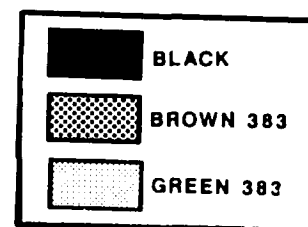
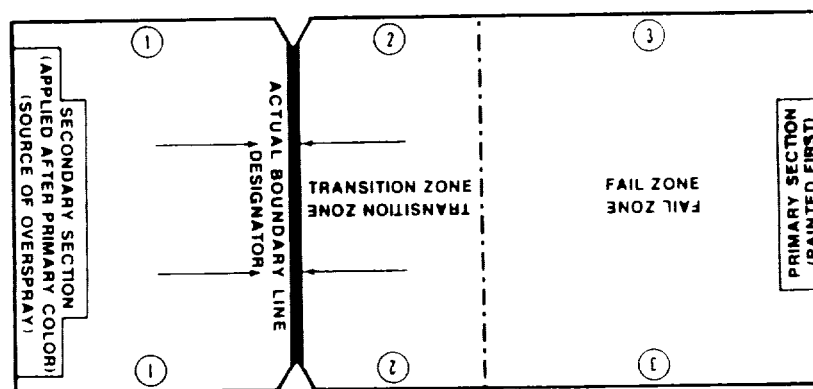

Figure 4-2. Markings on Camouflaged Equipment.
Figure 4-3. Overspray Gauge
Markings on CARC camouflaged equipment will be CARC in colors designated in figure 4-2.
- CPP designs, including inspection worksheet (para 4-3) and overspray gauge (fig 4-3)
- One (1) 6-foot steel measuring tape, graduated in sixteenths (or thirty-seconds) of an inch
- One (1) 6-foot steel measuring tape, graduated in tenths of an inch
- Overspray gauge (figure 4-2)
In this level of inspection, the borders are examined to ensure color definition. The contrast between color areas is key to CPP effectiveness, and, for this reason, overspray of one color into another color area must be minimized to a 1-1/2 inch tolerance. An overspray gauge (figure 4-3) is used to determine whether overspray on the applied CPP is within this narrow tolerance.
b. *Overspray Gauge.* The overspray gauge (figure 4-3) is a card-like, transparent sheet of plastic with white markings (to contrast with camouflage colors) which indicate the tolerance, or 'transition' zone. The gauge is overlaid on the border area; the actual border line is then located and aligned under the gauge boundary line DESIGNATOR, and the overspray is examined. When overspray extends into the 'FAIL ZONE', the failure location is noted by marking the notches at both ends of the gauge boundary line DESIGNATOR with chalk or soapstone.
(1) Lay overspray gauge over border, so that FAIL ZONE lays over color area applied first.
(2) Align DESIGNATOR, or boundary line marking, as close as possible to fog/boundary transition area, so that it is just short of overlapping spray, but so that no primary color can be seen in secondary section.
(3) Examine overspray. If it extends into FAIL ZONE, record Level II failure as follows: